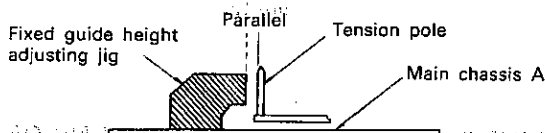

Figure 16.
2. Set the stationary guide height adjustment jig as shown in Figure 16.